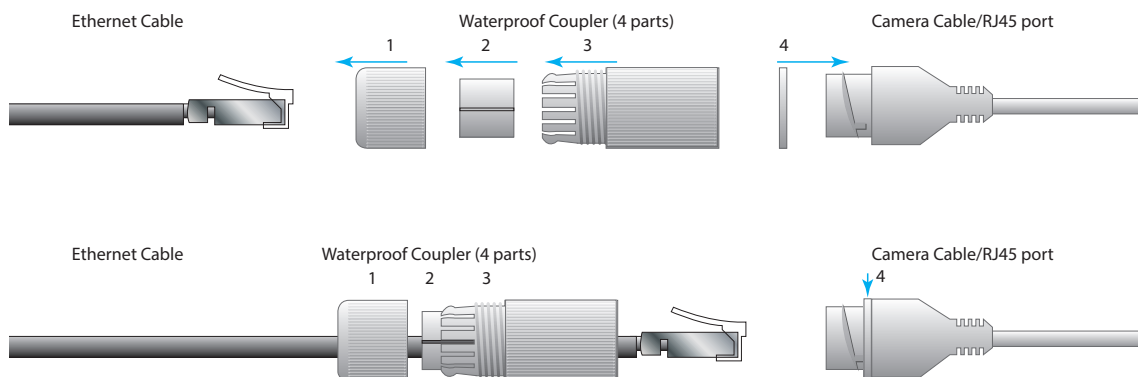

Fig. 3.16
10. Install the four-piece waterproof coupler that came with the camera. Three pieces (1, 2, and 3) are installed on the Ethernet cable, while the fourth piece, the thin washer (4), is inserted over the RJ45 port on the camera cable. See Fig. 3.16.